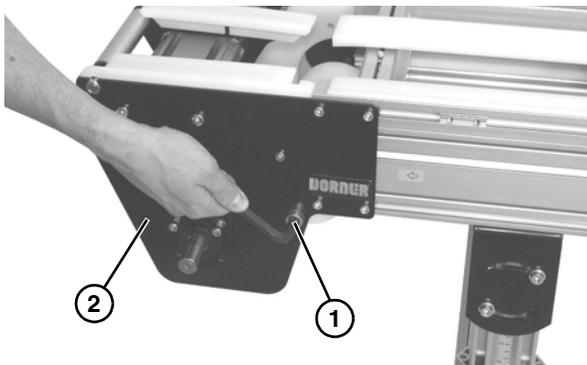

Figure 32
2. Remove socket head bolt (**Figure 32, item 1**) on each side of drive tail assembly (**Figure 32, item 2**).